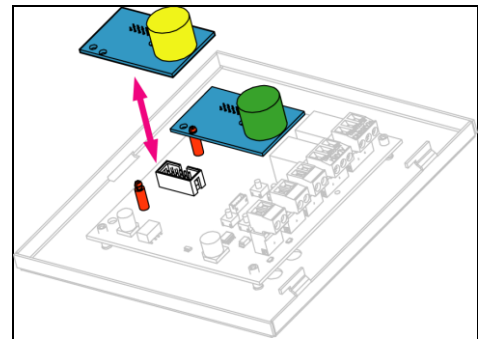

Figure 10: Sensor Module Replacement.
Sensor modules must be replaced when they reach their End of Life. Care should be taken to ensure the correct sensor modules are placed in the proper location: CO is on top (highlighted in green in Figure 10) and NO₂ is in the lower location (highlighted in yellow in Figure 10).
3. Unplug the affected sensor module by holding the device's board and pulling the sensor module firmly away (Figure 10).
4. Plug the new sensor module into the vacant location: press the module firmly until the nylon standoff (highlighted in red in Figure 10) at the bottom-left side of the board has been seated properly. Be sure the sensor module is plugged into the proper location.